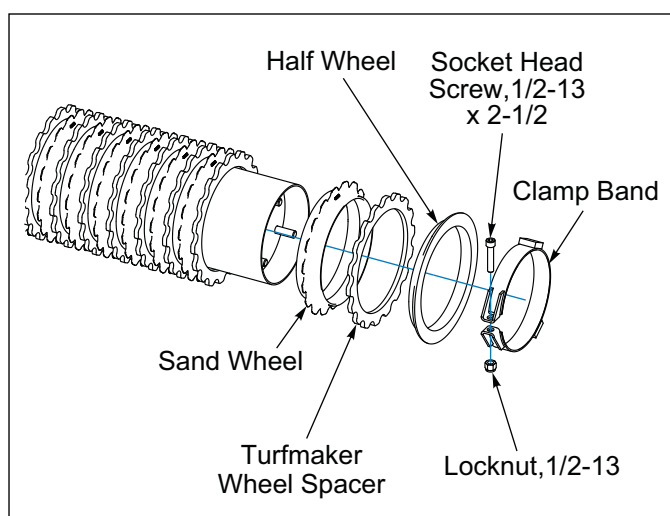

Figure 2-33: Turfmaker Sprockets
1. Position the Turfmaker Wheel Spacer between each 4C689 Sand Wheel. **See Figure 2-33.**